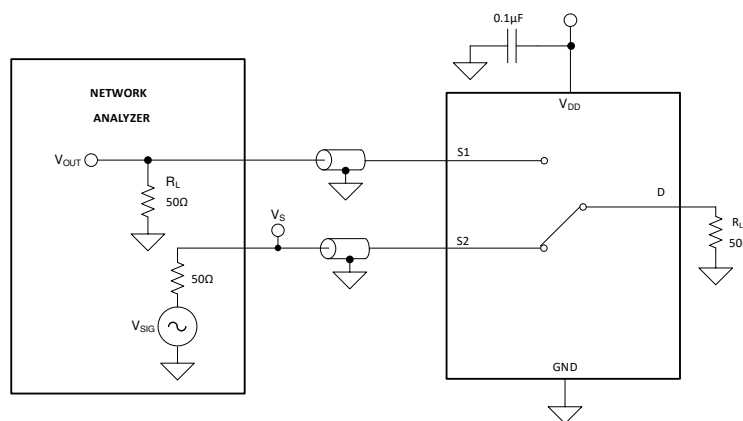

Figure 23. Crosstalk Measurement Setup
Crosstalk is defined as the ratio of the signal at the drain pin (D) of a different channel, when a signal is applied at the source pin (Sx) of an on-channel. Figure 23 shows the setup used to measure, and the equation used to calculate crosstalk.